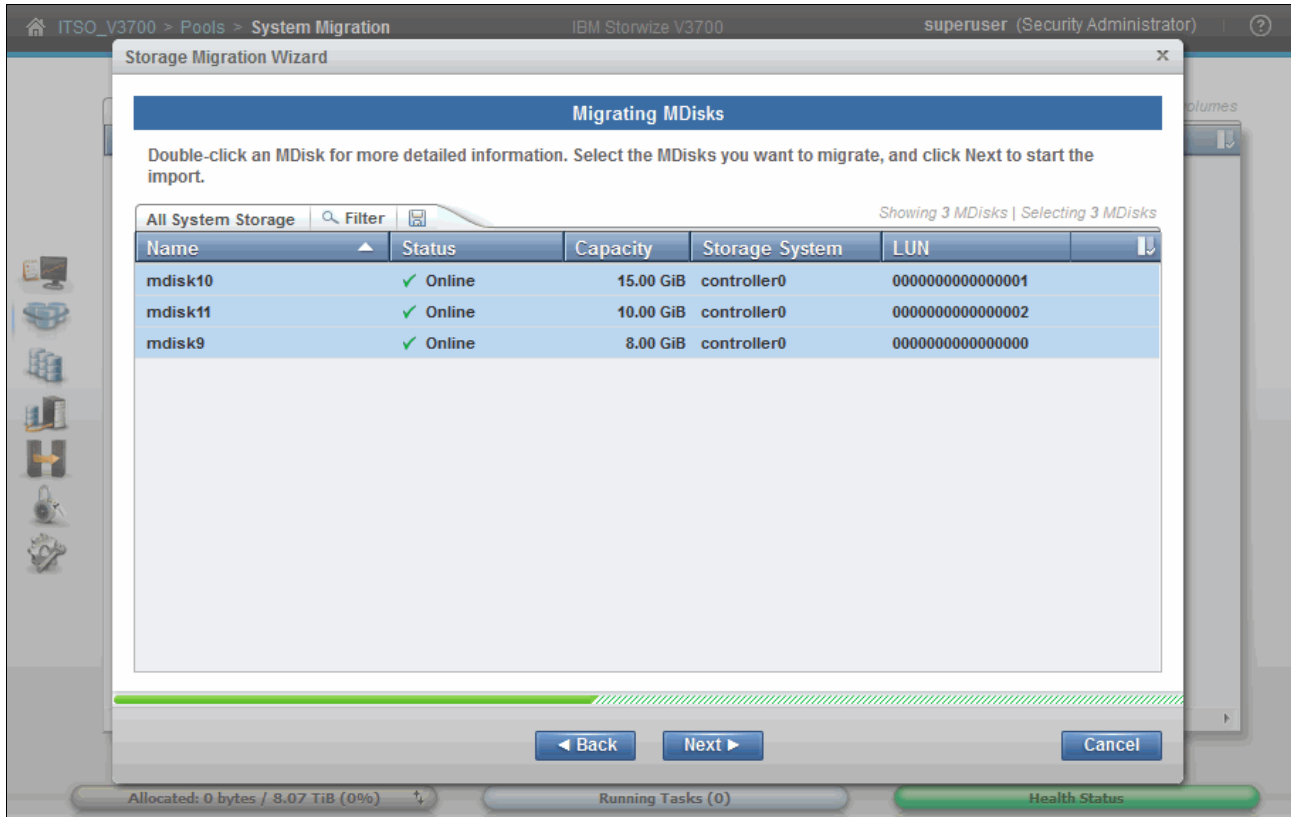

Figure 6-43 Migrating MDisks pane
1. In the next step of the wizard, select the MDisks that are to be migrated and then click **Next** to continue. Hold the Ctrl key down while clicking MDisks to highlight more than one MDisk for migration. Figure 6-43 shows the Migrating MDisks pane.